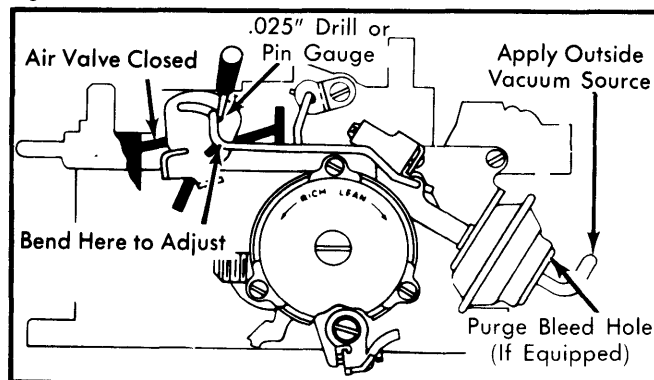

Fig. 7 Adjusting Air Valve Rod — Front
1) Using an outside vacuum source, seat primary (front) vacuum break diaphragm. Plug purge bleed hole (if equipped) with masking tape. Hole is located in end of diaphragm. See Fig. 7.